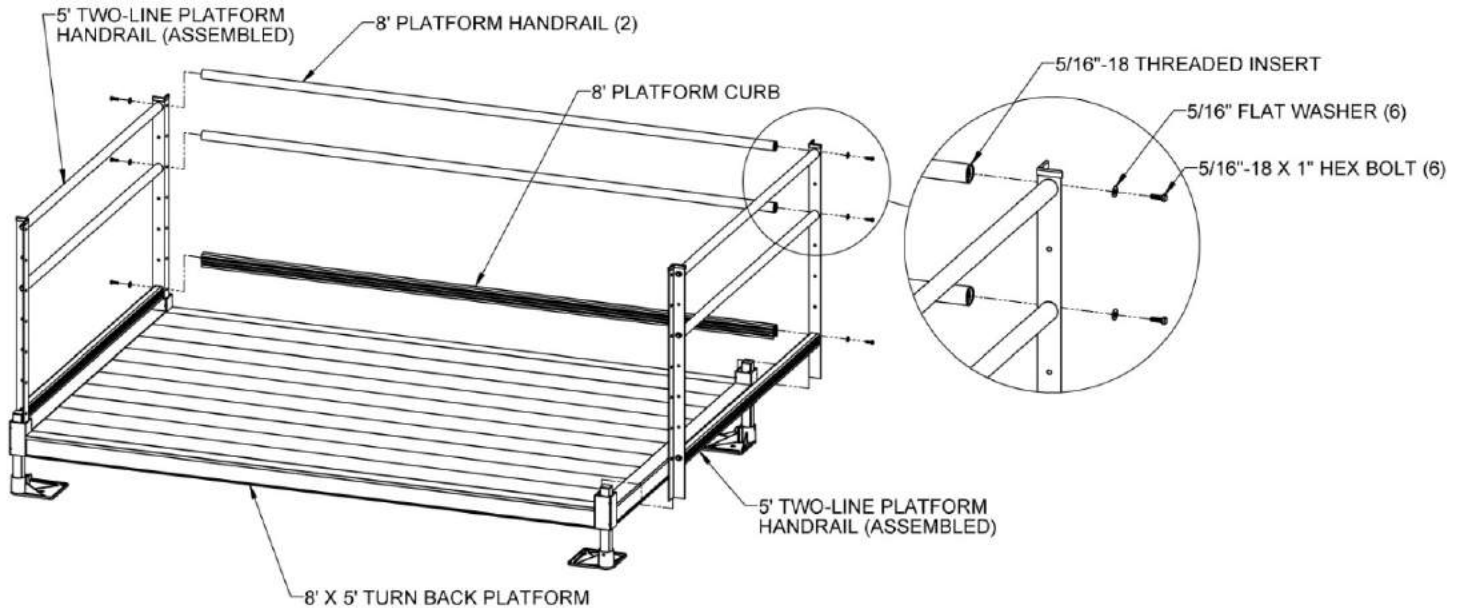
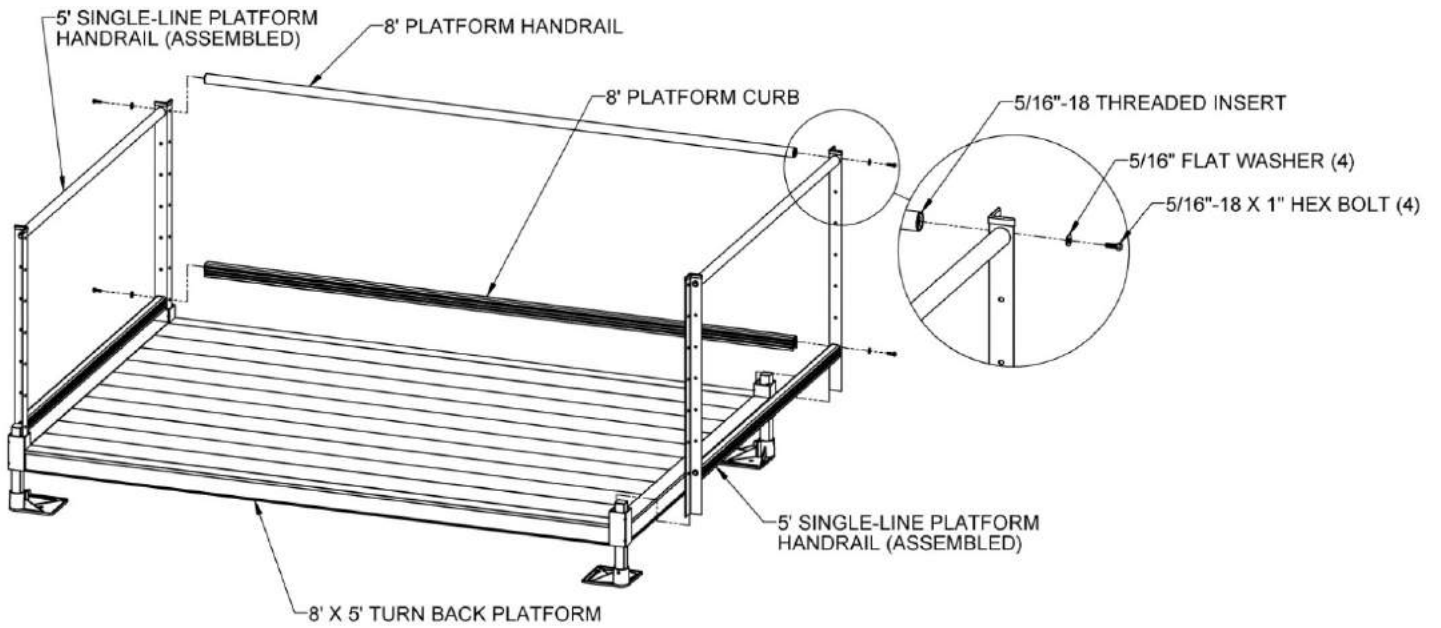
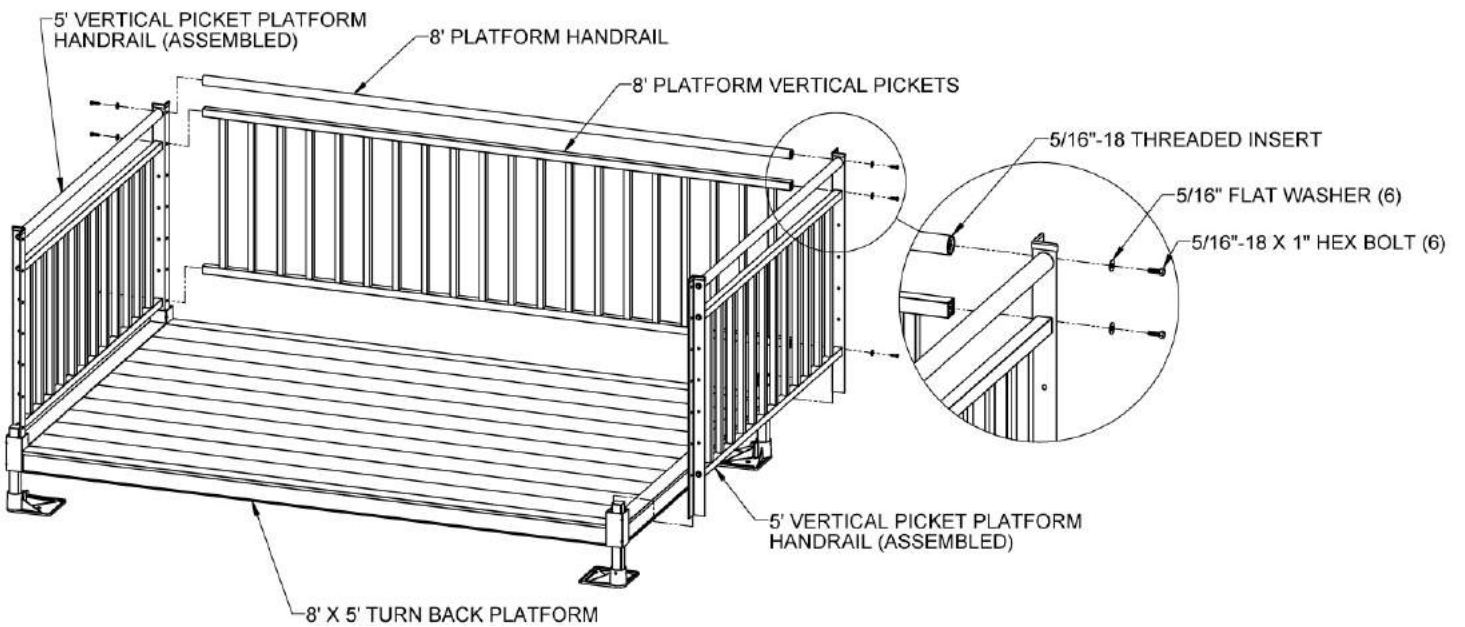

FIG. 4.12
FIG. 4.13
FIG. 4.14
- 4.7.3. Assemble the 8' platform handrails and curb between the two 5' platform handrails by threading 5/16"-18 x 1" long hex bolts through the holes in the 5' platform posts which align with the 5' handrails and curb and into the threaded inserts in the ends of the 8' handrails and curb. Tighten all fasteners securely (FIG. 4.12).
- 4.7.4. 8' platform Single-Line, Vertical Picket and Horizontal Picket handrails are assembled in a similar manner (FIG. 4.12, FIG. 4.13 & FIG. 4.14).